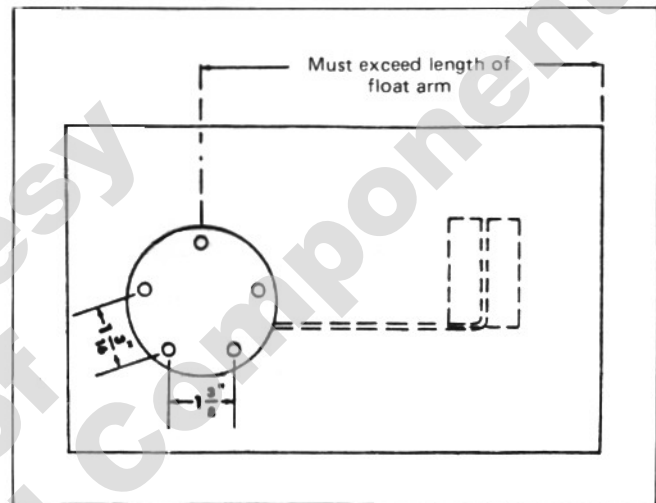
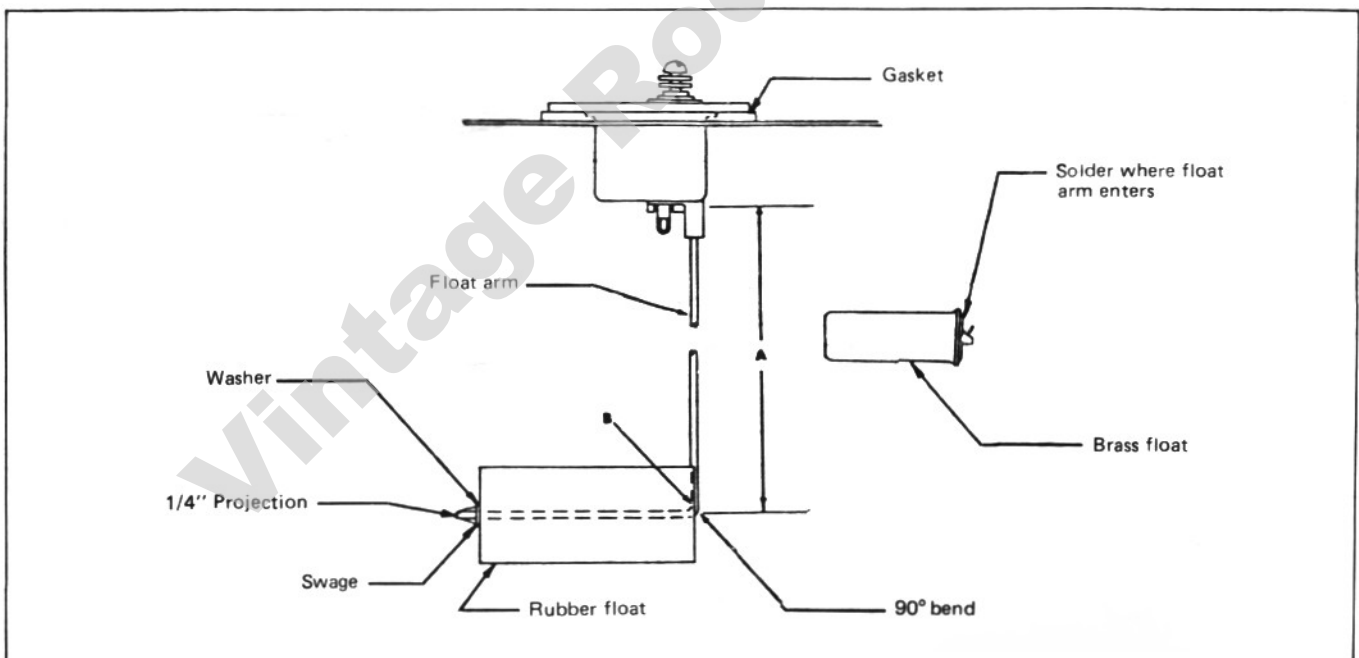

FIGURE 1
FIGURE 2
The direction of the float arm is governed by the position of the flange mounting holes. Two of these holes have a greater distance between them than the others (Figure 2). Hold the bracket with these two holes toward you and note which way the float arm swings. If the arm does not clear the side of the tank, a tank unit that swings in the opposite direction must be used. Figure 1 illustrates right hand unit.
Measure the depth of the tank (Figure 2).
2. At point where float arm enters float, make a 90 degree bend as illustrated ("B," Figure 2).
3. Slide float and washer on float arm (Figure 2) until arm protrudes from other end of float.
4. Place a drop of solder where float arm enters clip (see insert, Figure 2).